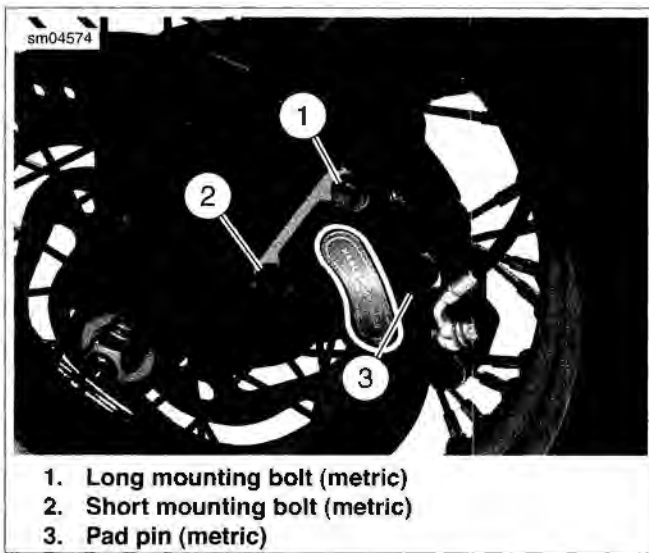
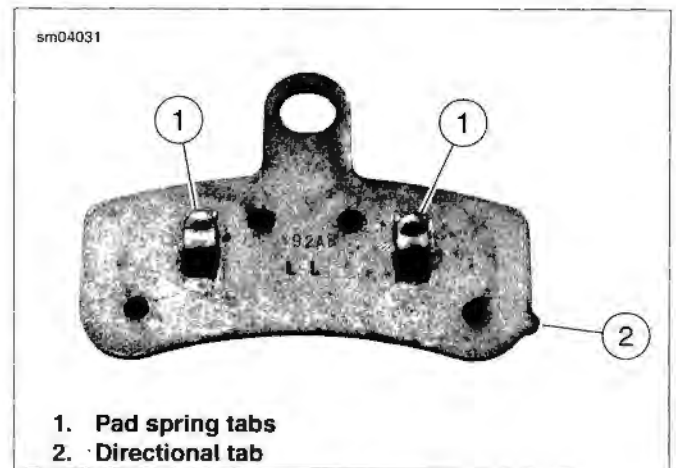

Figure 1-40. Front Brake Caliper (Left Side Shown)
Figure 1-41. Front Brake Pad
2. See Figure 1-40. Loosen, but do not remove bridge bolt/pad pin (3) (metric).
- See Figure 1-41. Ensure the pad spring tabs (1) on brake pad engage the pad springs in the pistons.
- If the directional tab (2) does not face down when caliper is installed, brake noise may develop.
7. Install **new** pads into caliper. The directional tab (2) must face down when caliper is installed.
- a. See Figure 1-40. Place caliper over brake disc with bleeder valve facing upward.
- b. Loosely install long mounting bolt (1) (metric) into upper hole on fork leg.
- c. Install short mounting bolt (2) (metric) into lower hole on fork leg. Tighten bottom mounting bolt to 28-38 **ft-lbs** (38.0-51.5 Nm).
- e. Final tighten center bridge bolt/pad pin (3) to 15-16 **ft-lbs** (20.3-22.6 Nm).